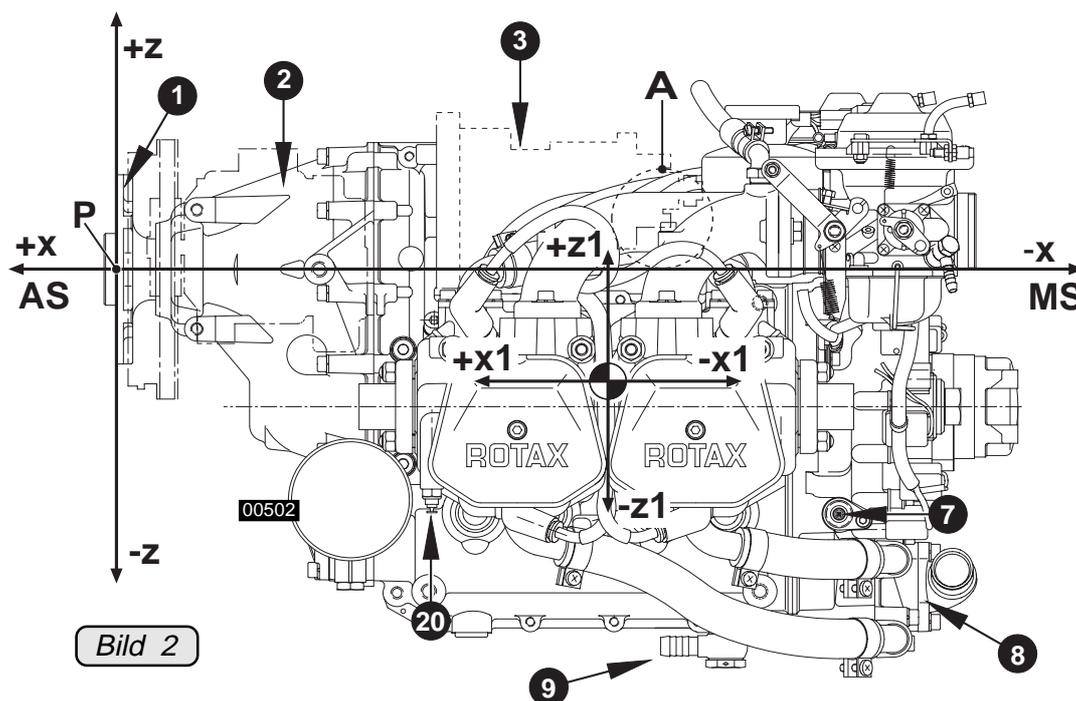

Bild 2
See fig. 2, 3 and 4.
◆ NOTE: Investigation should be conducted to identify the hottest cylinder (cyl. 2 or 3), depending on the installation (tractor or pusher arrangement). See fig. 2 and 4.
◆ NOTE: Dimensions to point of reference (P). See fig. 2, 3 and 4.